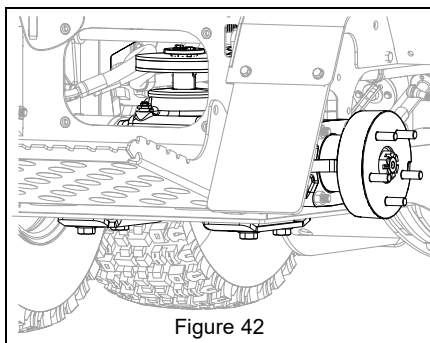

Figure 42
3. Remove right rear wheel assembly. See Figure 42.